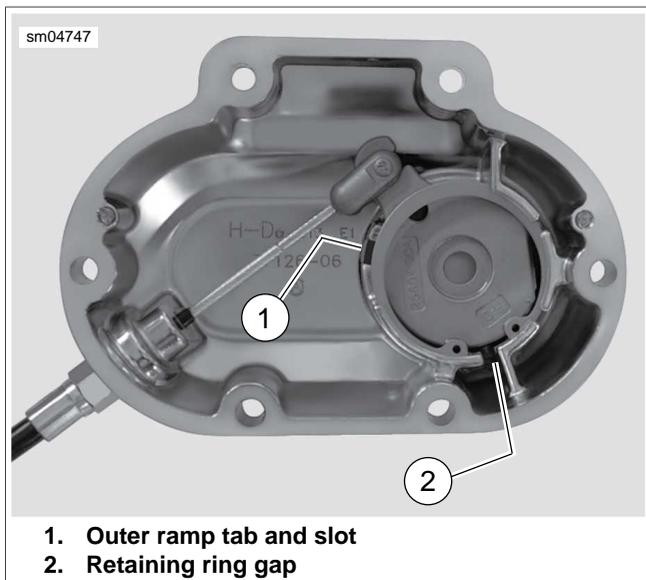

Figure 2-90. Assemble Clutch Release Cover
8. Place outer ramp (ball socket side up) in clutch release cover with tab in cover slot. See Figure 2-90.
12. Install retaining ring, so that the gap is centered above the break in the ribbing at bottom of clutch release cover. See Figure 2-90.